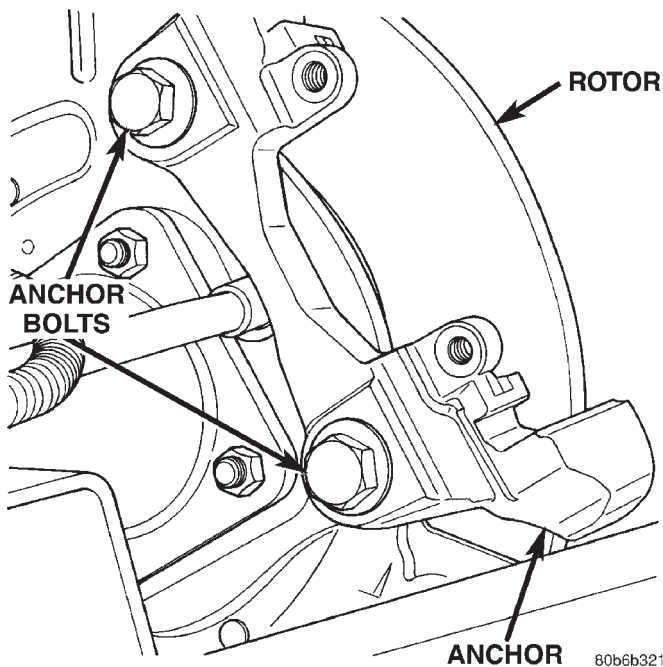

Fig. 42 Caliper Anchor Bolts
(1) Raise and support the vehicle.
(2) Remove wheel and tire assembly.
(3) Remove the caliper anchor bolts (Fig. 42).